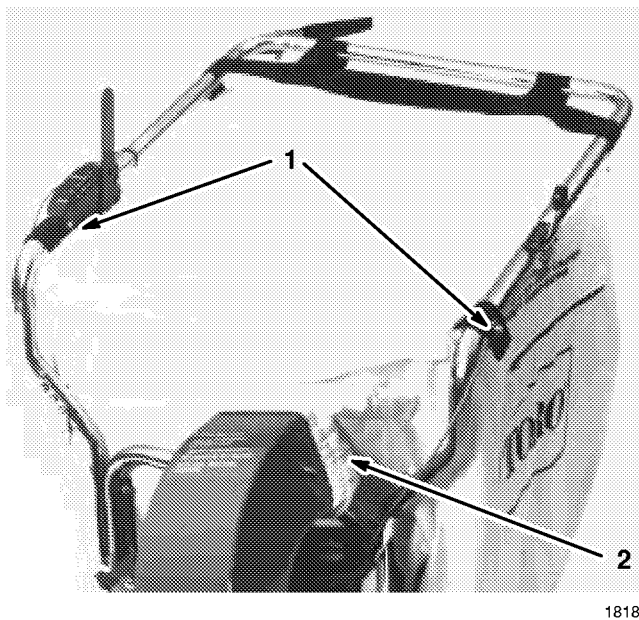

Figure 8
2. Position bag onto handle, hooking grommets over pins, and bag strap over handle (Fig. 8).
3. Slip elasticized neck of bag over the flanges on chute (Fig. 8).